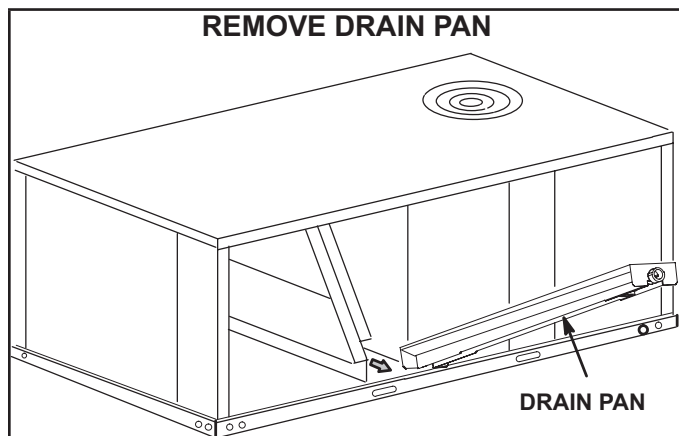

FIGURE 9
- 2 - Lift the front edge of the drain pan and slide pan out of unit. See FIGURE 9.